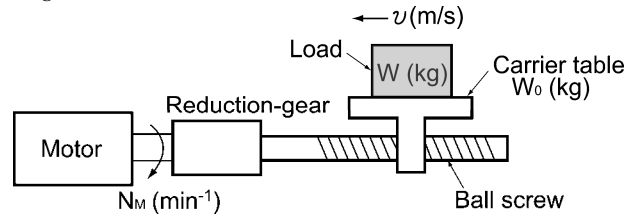

Figure 3.7 Moving a Load Horizontally
A simplified mechanical configuration is assumed as shown in Figure 3.7. If the mass of the carrier table is W_0 (kg), the load is W (kg), and the friction coefficient of the ball screw is μ , then the friction force F (N) is expressed as follows, which is equal to a required force for driving the load:
Assume a carrier table driven by a motor as shown in Figure 3.7. If the table speed v (m/s) when the motor speed is N_M (min^{-1}), then an equivalent distance from the shaft is equal to $60 \cdot v / (2\pi \cdot N_M)$ (m). The moment of inertia of the table and load to the shaft is calculated as follows: